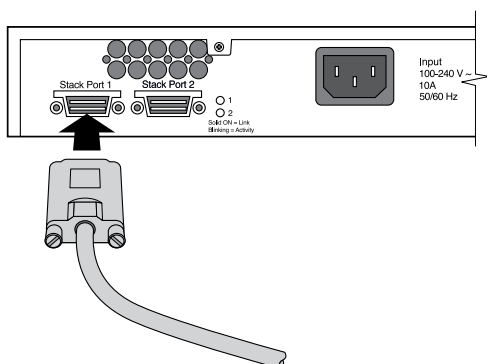

Figure 194: Connecting a Summit Stacking Cable
- 1 Align the cable connector with the stacking port connector on the back of the first switch (see Figure 194: Connecting a Summit Stacking Cable on page 229).